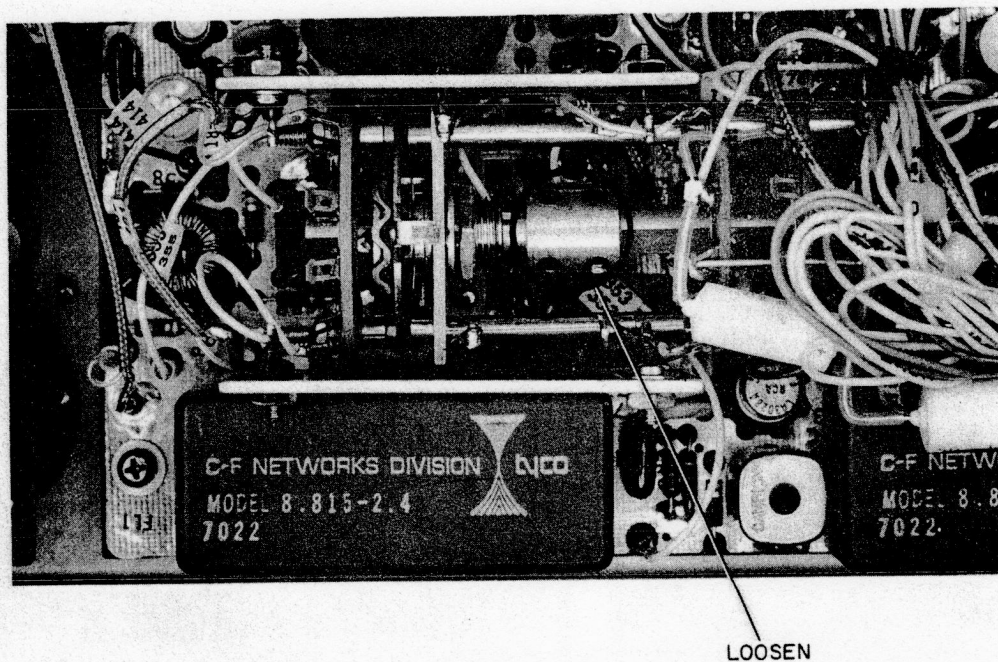

Figure 4-18. Coupling Collar for IF Board "MODE" Selector Switch
1. Set the "MODE" selector switch to the "CW1" position, and loosen the Allen setscrew (use a .050 Allen wrench) in the coupling collar shown in Figure 4-18.